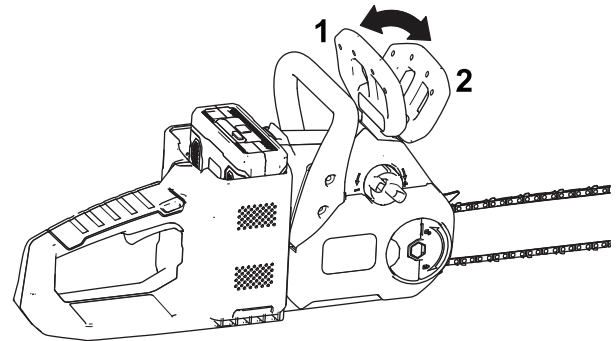

Figure 27
2. Engage the chain brake by moving the chain brake forward to the STOP position (Figure 27).
4. Disengage the chain brake by moving the chain brake rearward to the OPERATING position (Figure 27).
2. Unfold the wing-nut tab and loosen, but do not remove the wing nut on the cover (Figure 27).